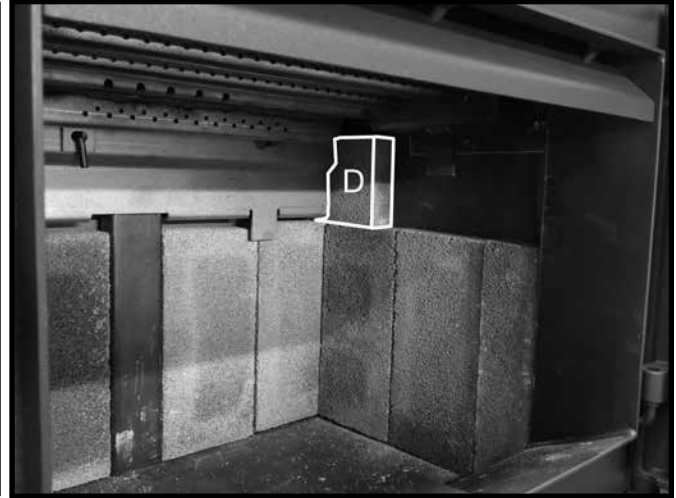

Figure 27: Small side wall firebrick in position.
6. Place a "D" firebrick on top of the previously placed "A" firebricks and slide this firebrick back toward the rear wall making sure that this firebrick tucks in behind the brick rail (Figure 27).